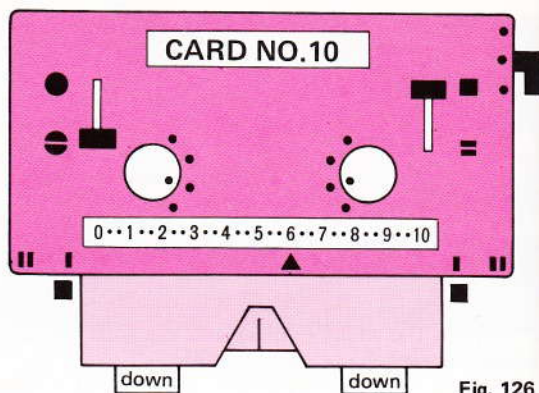

Fig. 126
- Set the carriage as in fig. 126. Take the yarn out of thread mouth and leave it at the end of the needle bed.